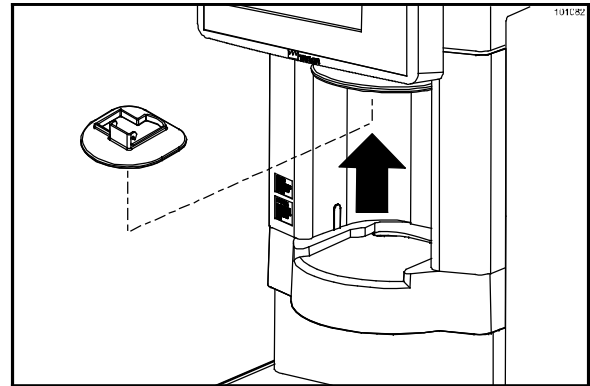

Figure 139
- Reinstall the splash guard. (See Figure 139.)